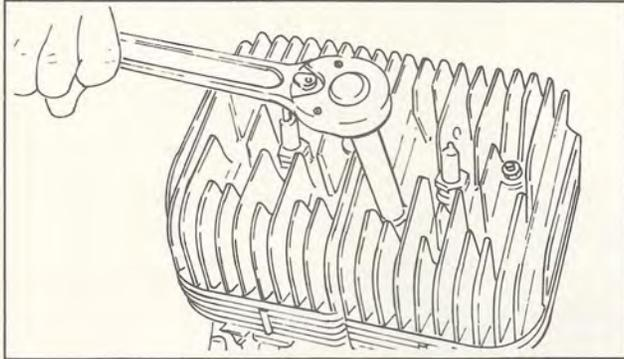

Fig. 2-50
- (1) Remove the cylinder heads. Each head is held down by four nuts and four bolts. Break each nut loose, in pattern, before removing completely. (Fig. 2-50)